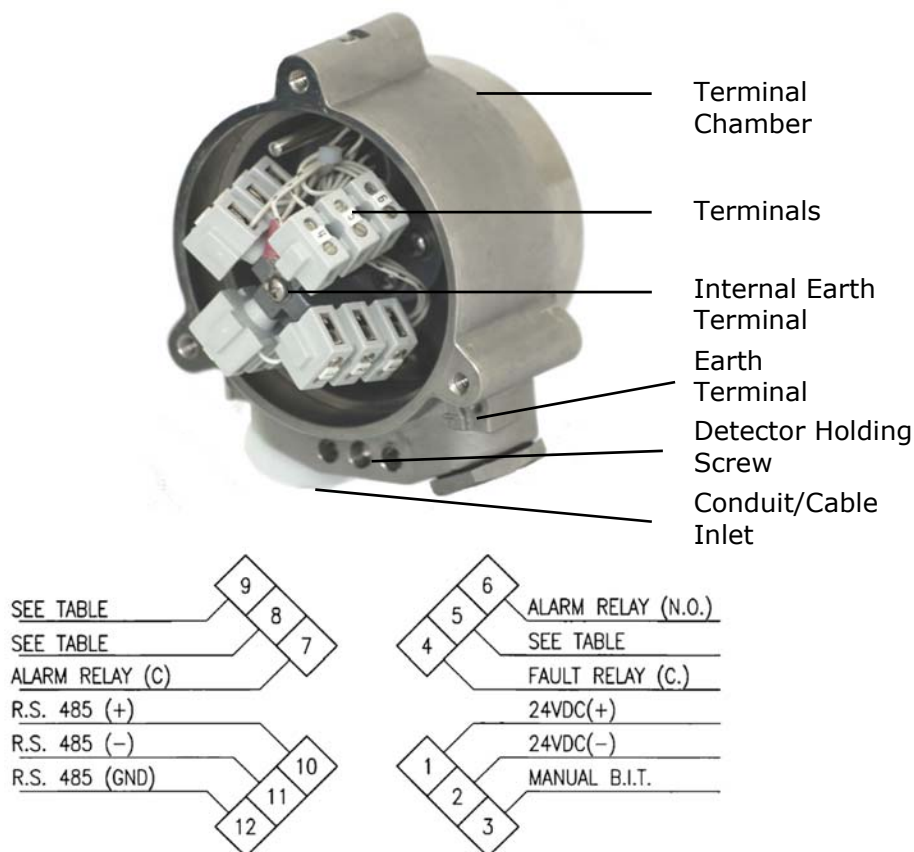

Figure 7: Detector with Cover Removed
This section describes how to connect the electric cabling to the detector (Figure 7).
- 5 Connect the wires to the required terminals on the Terminal Board according to the wiring diagram (Figure 7) and Table 14.
- 8 Check the wires for secure mechanical connection and press them neatly against the terminal to prevent them from interfering while closing the back cover (Figure 7).